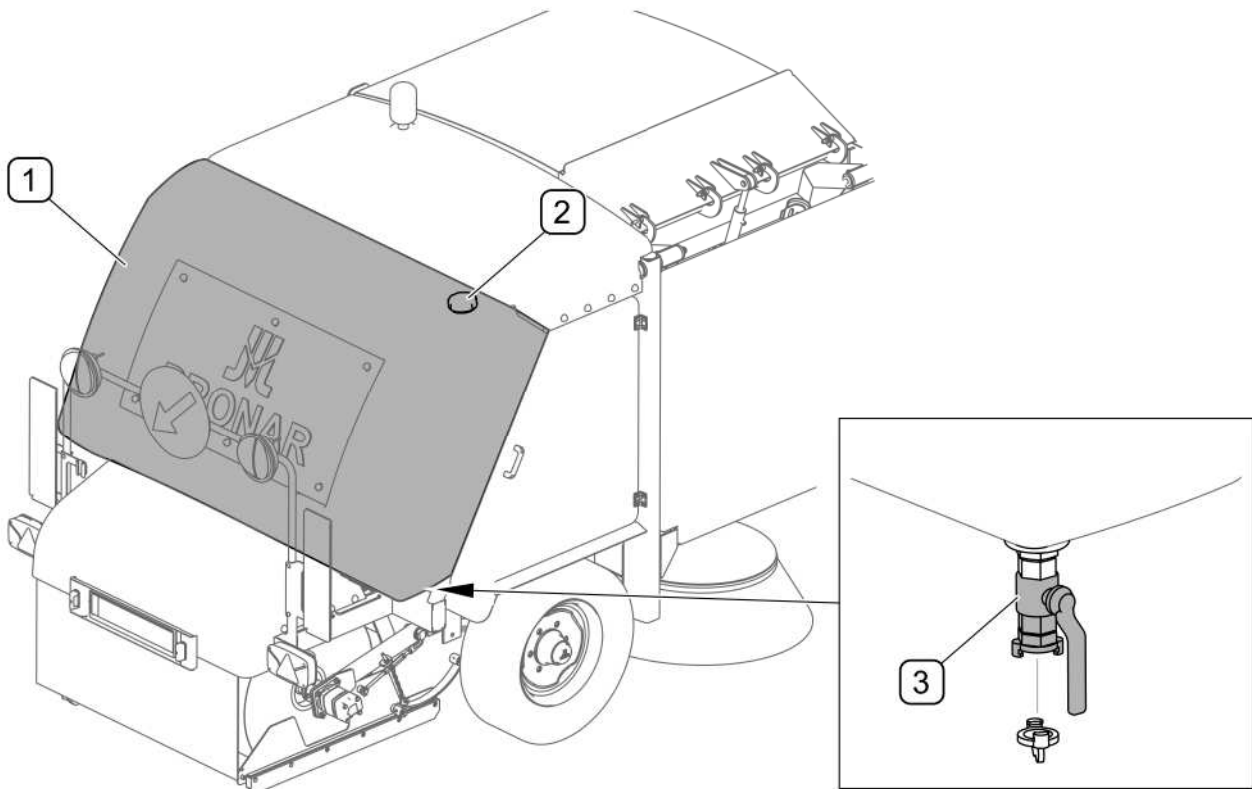

FIG. 4.9 Water tank of sprinkler system
Water tank (1) of the sprinkler system can be filled through the filler opening that is secured with plug (2) and located in the upper part of the water tank (FIG. 4.9). The tank may be also filled directly from water supply system using claw joint with valve (3). Level of water in the tank should be checked during machine operation. If there is no water in the tank, switch off the sprinkler system.